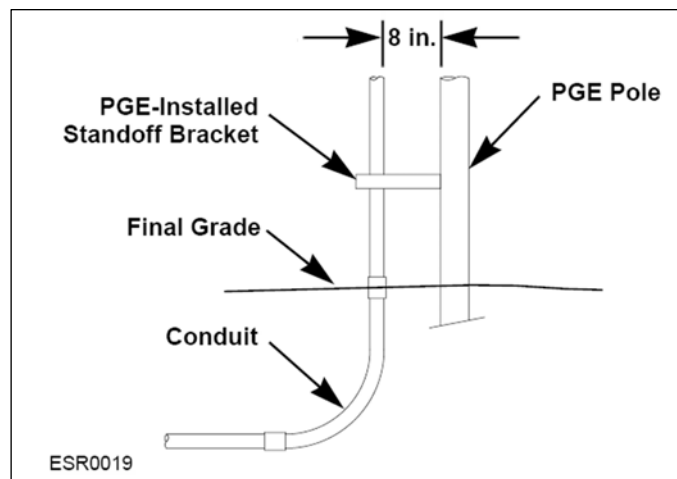

Figure 36: PGE-Installed Standoff Bracket
Figure 36 shows a PGE-installed standoff bracket on the pole.
- When the conduit extends to a PGE pole or handhole, consult PGE for the exact conduit location. PGE will then install a bracket on the pole or mark the location on the pole for the conduit. There must be at least 8 inches between the pole and the backside of the conduit, as shown in **Figure 36**.